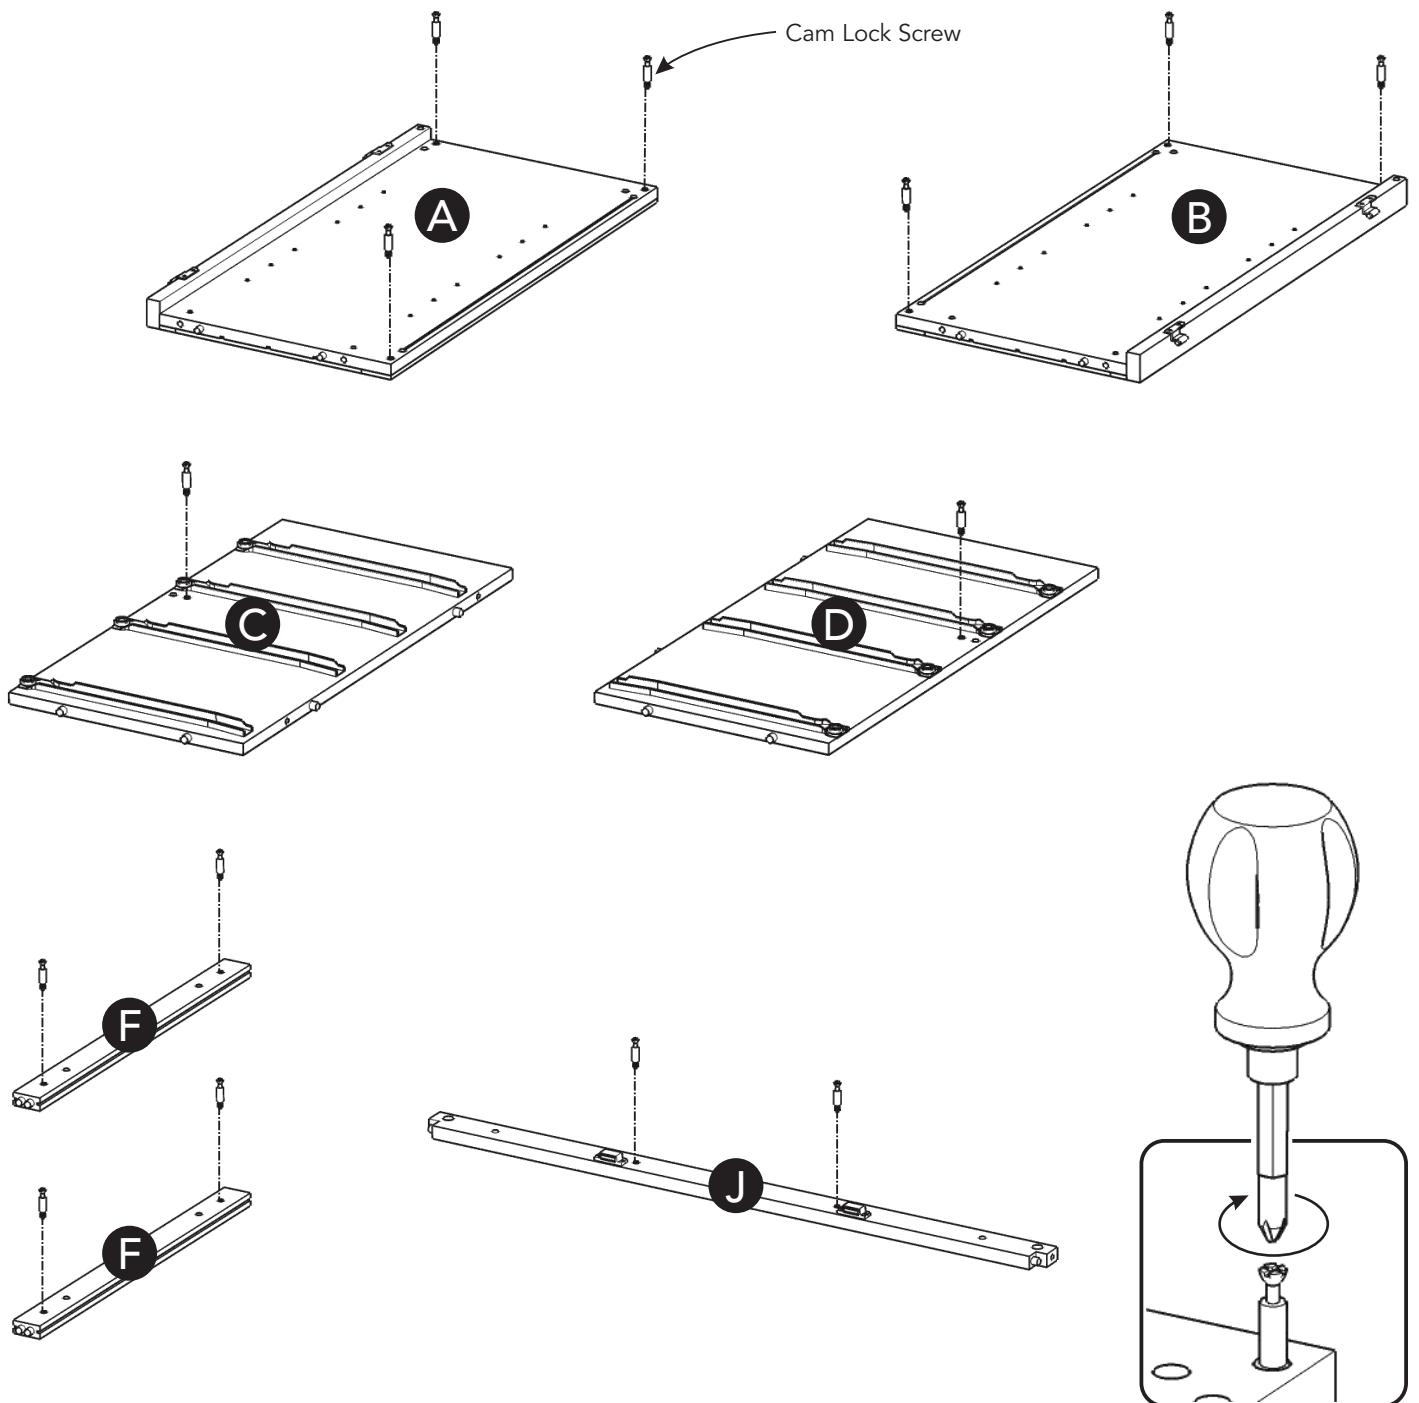

Figure 1
Insert Cam Lock Screws into pre-drilled holes in Side Panels (A), (B), Middle Panels (C), (D), Back Uprights (F) and Front Rail (J), then tighten. (See Figure 1)